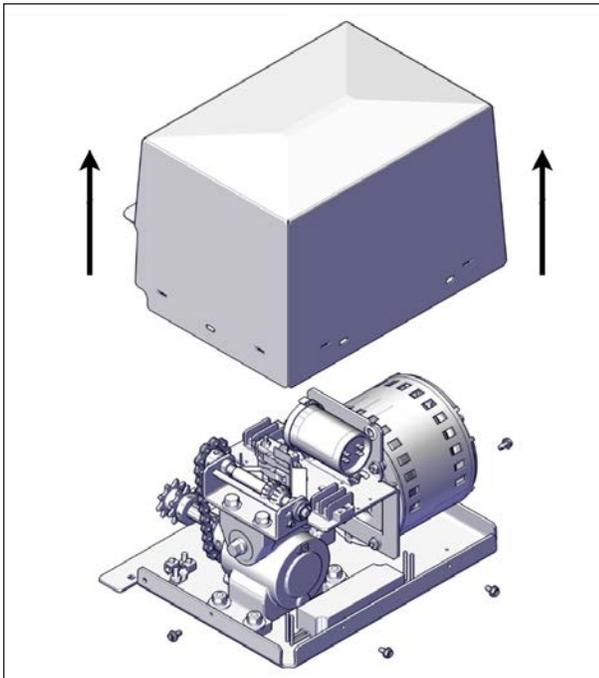

FIGURE 64: OPERATOR COVER REMOVAL
2. Remove the four screws at the bottom of the operator cover, and remove the cover as shown in Figure 64.